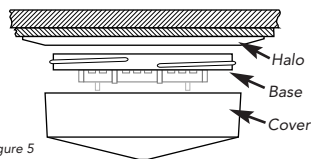

Figure 5
19. Slide the cover, and halo if used, up the pendant cable and screw the cover onto the base until secure against the ceiling. See Figure 5.